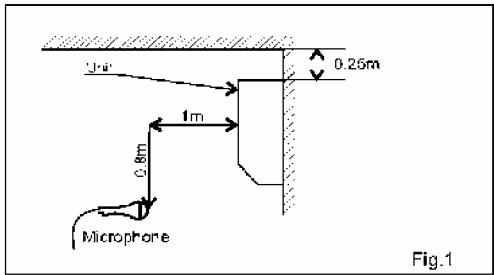

Figure 1. Wall Mounted
3.2 Soud Pressure Level Spectrum (Measured as Figure 1)